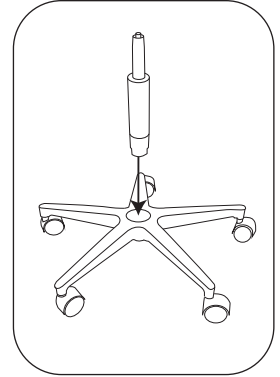

Figure 2
4. Install the cylinder by placing the wider (lower) end into the center hold of the stool base (Figure 2)